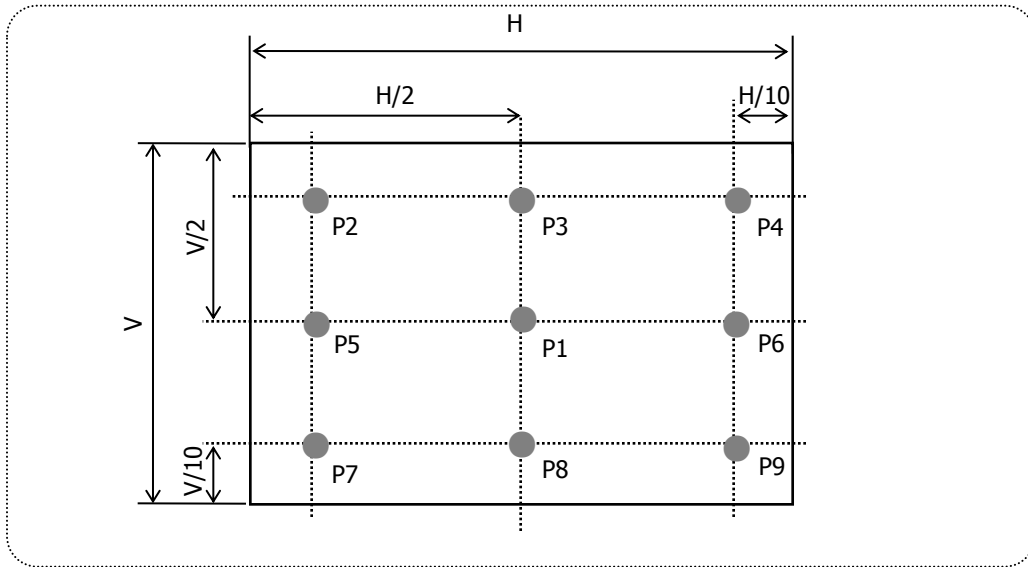

FIG.8 Measure Point for Luminance
2. **Surface luminance**(L_{WH}) is luminance value at Center 1 point(P1) across the LCD surface 50cm from the surface with all pixels displaying white. For more information see FIG.8 (By PR880)
For more information see FIG.8